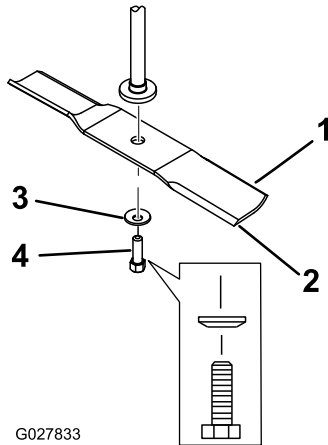

Figure 61
2. Remove the blade bolt, curved washer, and blade from the spindle shaft (Figure 61).
1. Install the blade onto the spindle shaft (Figure 61).
2. Install the curved washer (cupped side toward the blade) and the blade bolt (Figure 61).